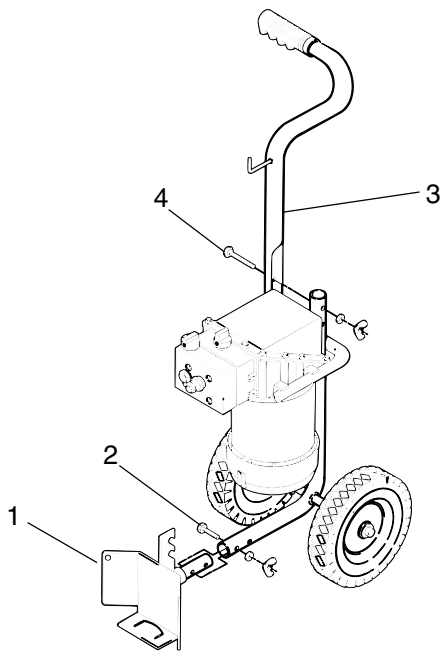

Figure 2 – Cart Assembly Diagram
1. Slide pail bracket (1) onto cart frame and attach with one bolt, washer and wing nut (2). See Figure 2 and Figure 3 A. This bracket helps to keep the sprayer stable in addition to providing a rest for the paint bucket and a catch for the bucket handle.